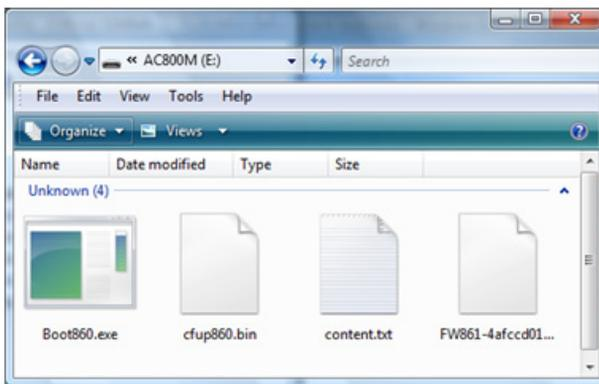
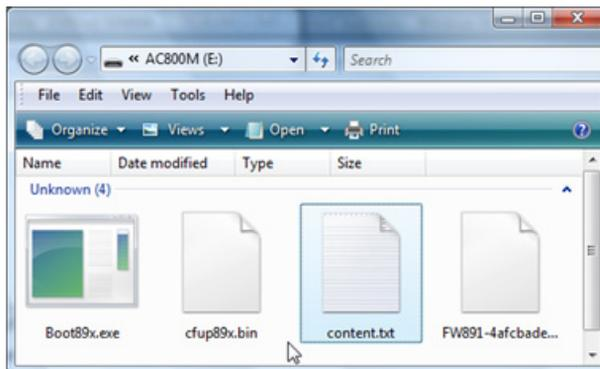

Figure 95. Firmware image files on CF card
Figure 96. Firmware image files on SD card
- There will be four files on the card (see Figure 95 for CF card and Figure 96 for SD card). If the media card is CF, then it has been formatted as FAT.